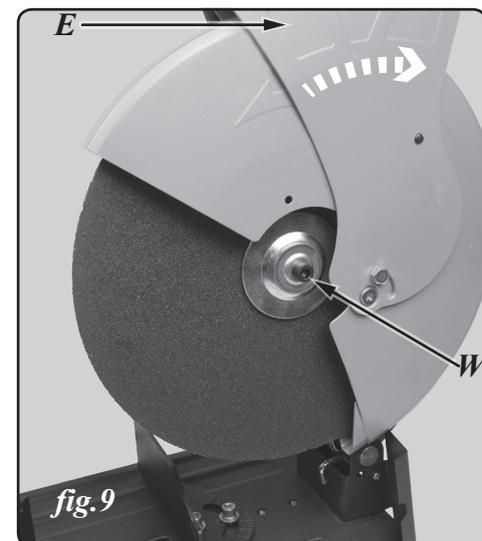

fig.9
1. Locate lower blade guard (E, fig.9).
2. Swivel the lower blade guard up and back, exposing the blade bolt (W, fig.9).